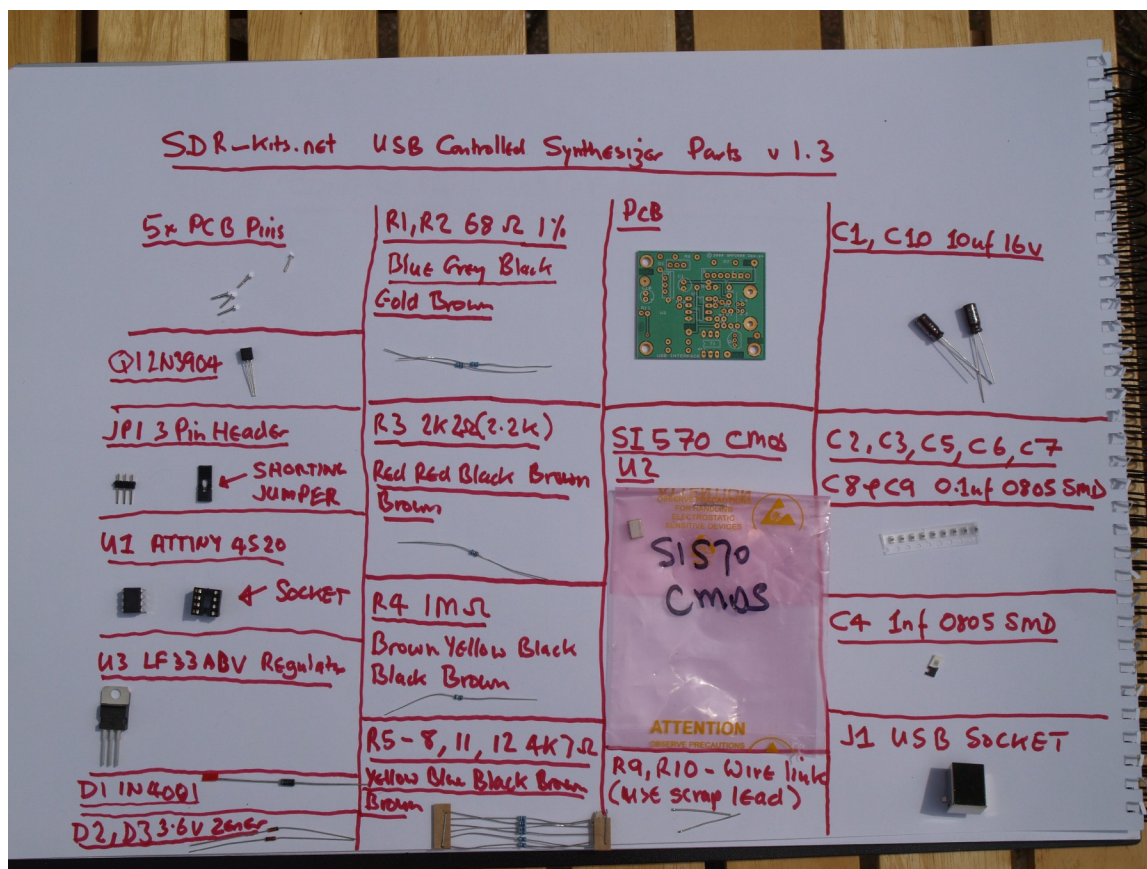

Fig 1 Inventory of Kit Parts – (photo by Steve G0XAR)
() Inventory of Kit parts is highly recommended – see Fig 1 below.
- () Look at Figure 2 to see the exact placement of the SMD capacitors C2, C3 and C5 through C9, and the PCB terminals. The SMD Capacitors are the small oblong shapes (0805 package), the soldered ends of the PCB terminals show as shiny circles. Figure 1 does NOT show C4 to avoid confusing it with C2. It looks exactly the same but has a different